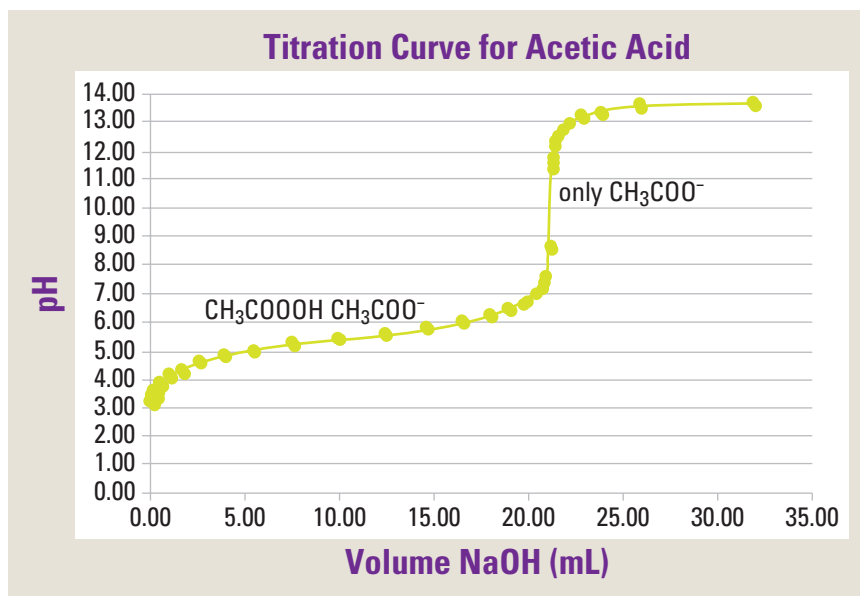

Figure 1. Titration of acetic acid with sodium hydroxide
2. If you titrate acetic acid (CH_3COOH) with sodium hydroxide (NaOH), the resulting products are the acetate ion (CH_3COO^-), the sodium ion, and water (see Figure 1). At a certain point, the reaction mixture contains acetic acid (the weak acid) and the acetate ion (its conjugate base) in solution, producing a buffer effect. If you were to continue adding NaOH to this reaction, what would eventually happen to this buffer effect? Explain.